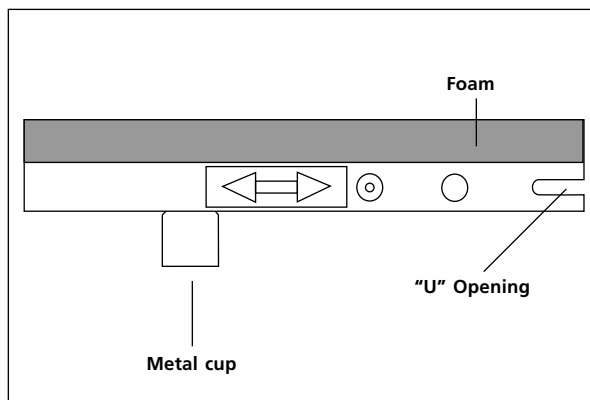

Figure 1—Hood frame channel
1. Locate the four (4) aluminum channels for the hood and position them into a square with the foam facing up. Slide the "U" opening on the channel end (Fig. 1) and corner bracket toward the brass eyelets until you feel it latch.
9. Push the support rod down and insert the top end of the rod into the metal cup on the hood frame. Fig 1.